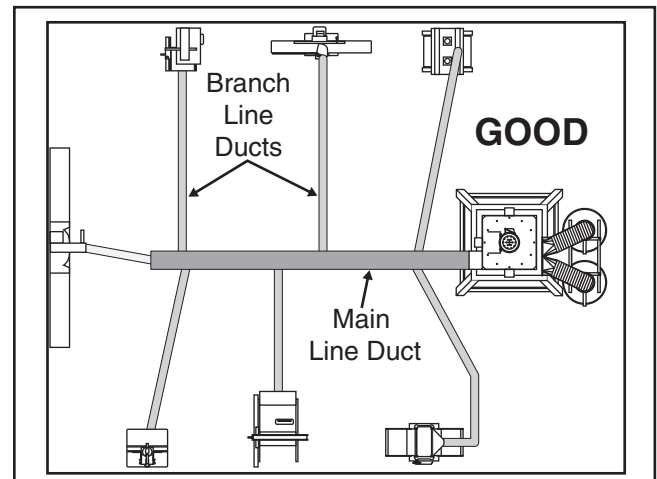

Figure 47. Good duct layout.
2. An ideal design will feature the shortest possible main line and secondary branch ducts. See **Figures 47 & 48** for ideas of good duct layouts vs bad duct layouts.